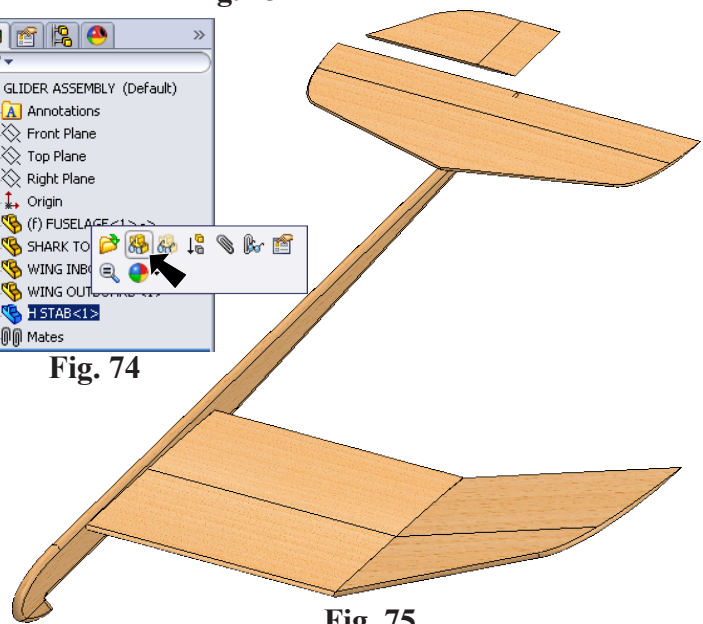

Fig. 75
Step 3. Click **Browse** and place V Stab as positioned in **Fig. 75**.